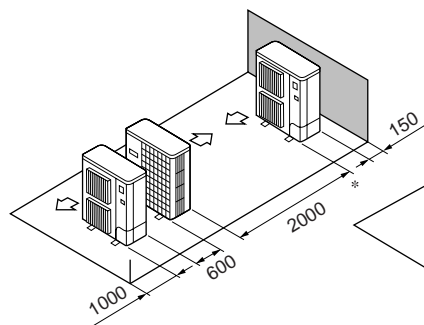

Fig.2-14
- Single parallel unit arrangement (Fig. 2-14)